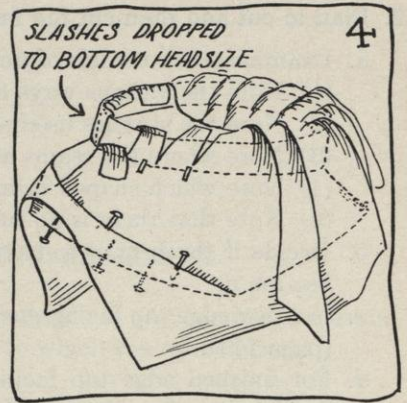

FIG. 4.
- c. Drop material to bottom headsize and pin (see Figure 4).
- e. Pin until absolutely smooth (see Figure 4).